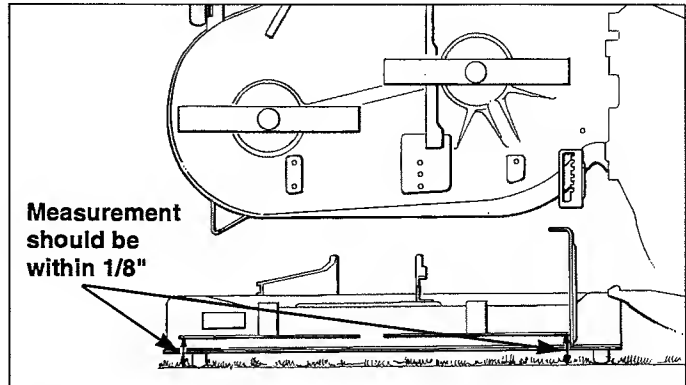

Figure 26. Side-to-Side Leveling (38" Deck Shown)
3. Place the mower in high-cut position. Arrange the mower blades so that they are pointing from side-to-side (Figure 26).
4. See Figure 26. Measure the distance between the outside tips of each blade and the ground. If there is more than 1/8" (3mm) difference between the measurements on each side, proceed to step 5. If the difference is 1/8" (3mm) or less, proceed to Front TO Back Leveling.